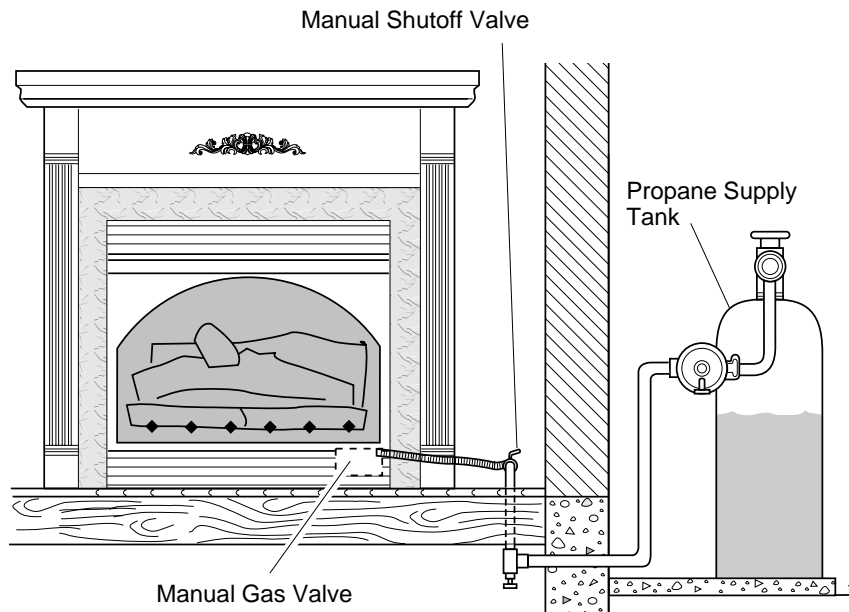

Figure 22 - Checking Gas Joints
3. Check all joints from propane/LP supply to manual shutoff valve (see Figure 22). Apply mixture of liquid soap and water to gas joints. Bubbles forming show a leak.
4. Check all joints from manual shutoff valve to thermostat gas valve (see Figure 22). Apply mixture of liquid soap and water to gas joints. Bubbles forming show a leak.